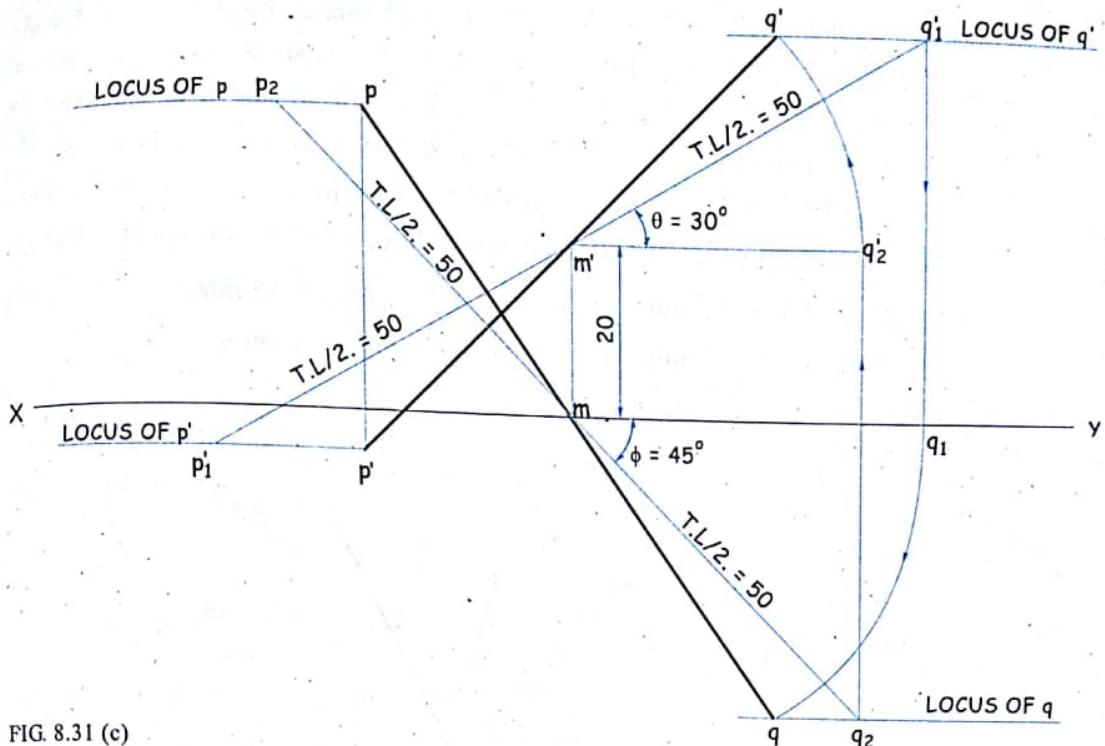

FIG. 8.31 (c)
**Stage II :** Refer figure 8.31 (b).